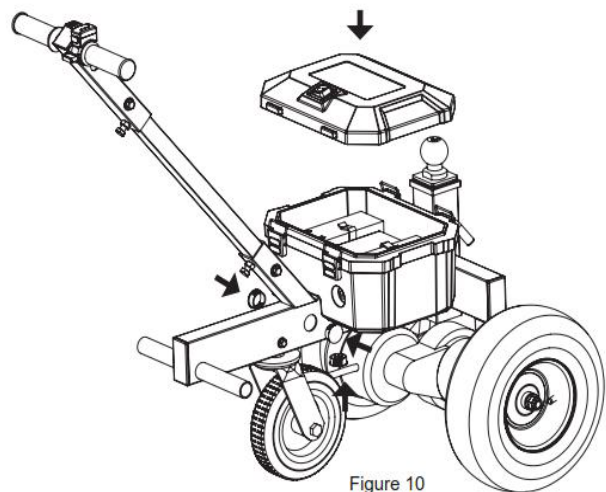

Figure 10
10. After the wire connection, lock the battery box, seal with the plug, installation finished. (See Figure 10)